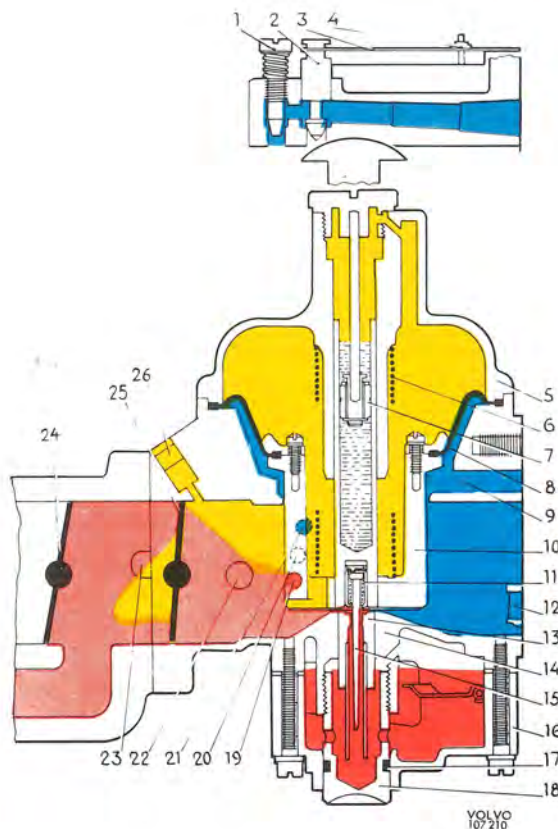
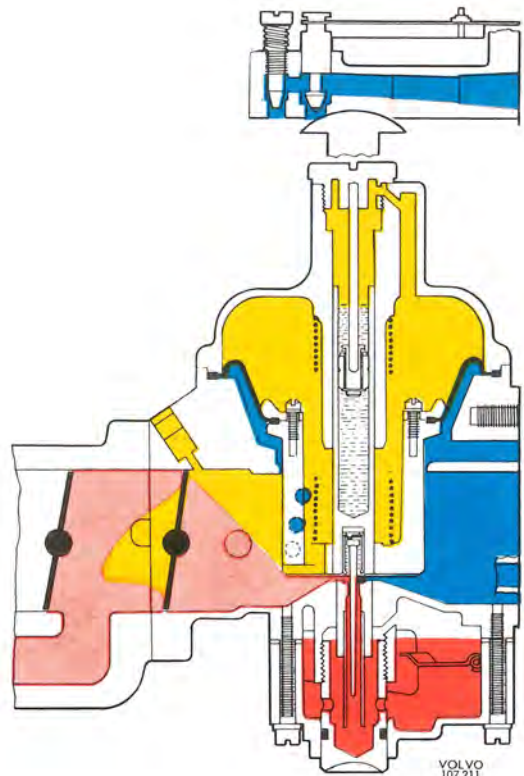
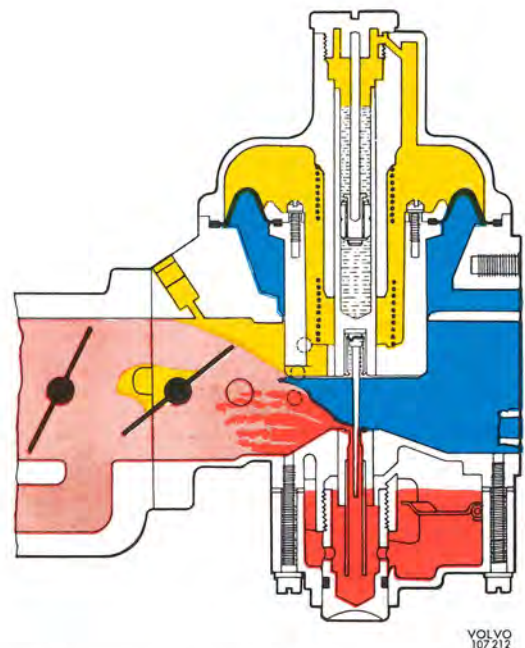

Fig. 2-62. Cold starting, principle
Fig. 2-63. Idling, warm engine
Fig. 2-64. Normal running, with open secondary throttle
When the engine is idling, the vacuum in the carburetor suction chamber is low and the column between the air valve and the bridge will be small (see Fig. 2-63). At this stage, the thicker section of the metering needle is in the jet and thus only a small quantity of fuel, corresponding to idling requirements, is sucked into the engine. The temperature compensator (Fig. 2-62) is regulated by a bi-metal spring (3) which influences a valve (2). When the engine is hot and the temperature in the carburetor rises, the valve opens and air is supplied to the carburetor venturi to compensate for the increase in the fuel flow, which is obtained due to the alteration in the fuel's viscosity, see Fig. 2-63. Fine adjustment of the engine idling speed can be carried out with the idle trimming screw (1, Fig. 2-62).
With the opening of the throttle flap, engine induction manifold depression is transferred via the channels in the plunger to the suction chamber which is sealed from the main body of the carburetor by the diaphragm. The pressure difference between the underside of the air valve, where there is pressure in the carburetor inlet port, and the upper side of the valve, where there is vacuum, causes the valve to lift from the bridge. This also lifts the tapered metering needle (15, Fig. 2-62), which is attached to the plunger, out of the jet. The effective choke area widens and increases the fuel flow. See Fig. 2-64.
When the air valve (10, Fig. 2-62) lifts, the damper piston (7) is forced against its seat and oil is prevented from flowing past from the upper side the lower side of the damper plunger, this retarding the movement of the valve (10). This temporarily results in a more powerful vacuum above the jet so that the fuel-air mixture becomes for the moment richer.